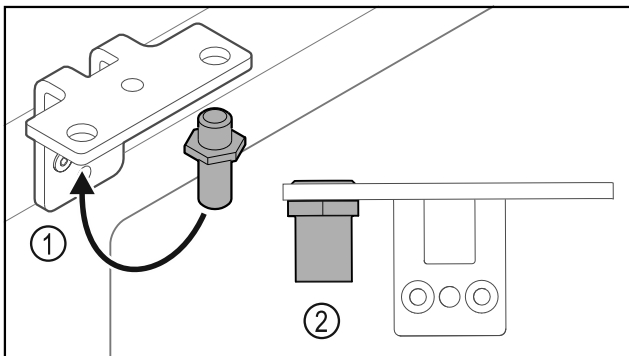

Fig. 37
- ▶ Put the pin back into the hinge Fig. 37 (1).
- ▶ Tighten the pin Fig. 37 (2) to a **torque of 12 Nm**.